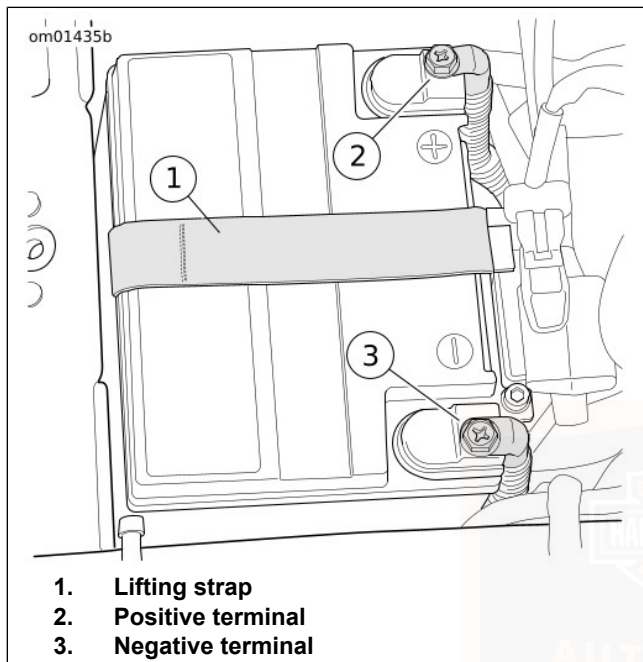

Figure 96. Battery Compartment
10. See Figure 96. Disconnect both battery cables, negative battery cable first.
3. See Figure 96. Place the battery into the battery tray, terminal side forward.